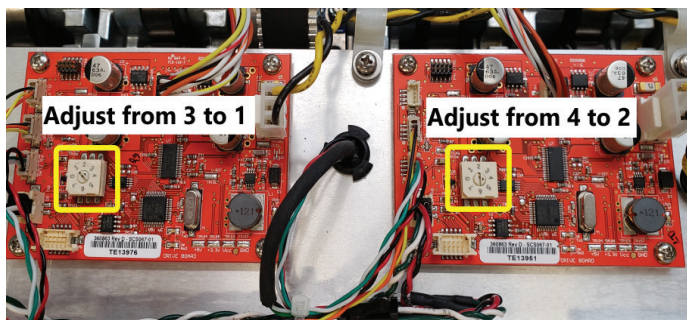

Figure 17: Pump board rotary switches
5. Using a small 1/8" flathead screwdriver, adjust the rotary switch on the left pump board from 3 to 1 and adjust the rotary switch on the right pump board from 4 to 2 (Figure 17)